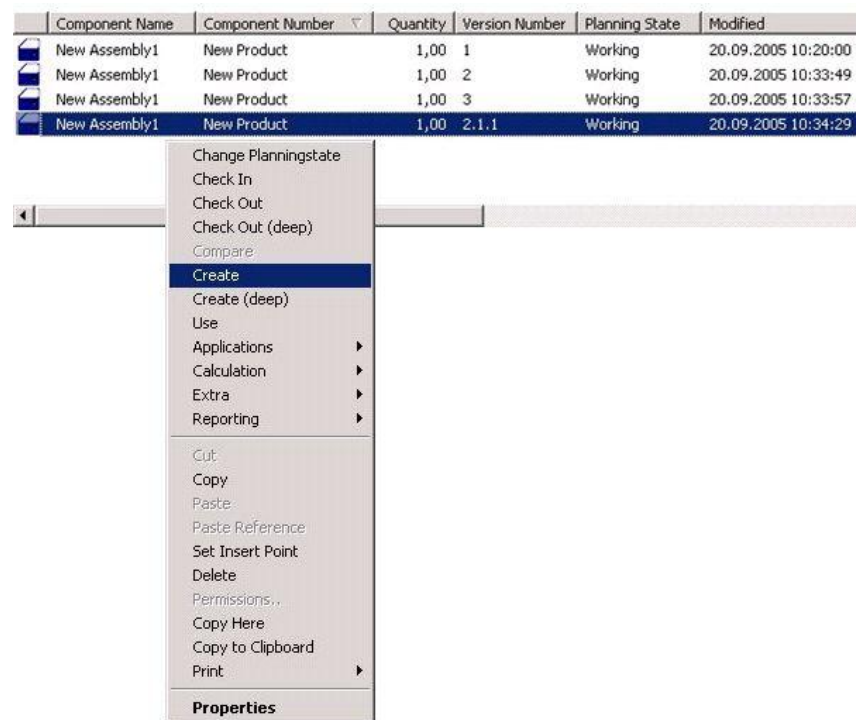

Figure 202: Context Menu for Versioning
- 2) Select the entry from which you want to create a succeeding version and call the context menu of the required object by a right click of your mouse. The following context menus must be considered (*Please refer to the Figure 202*).